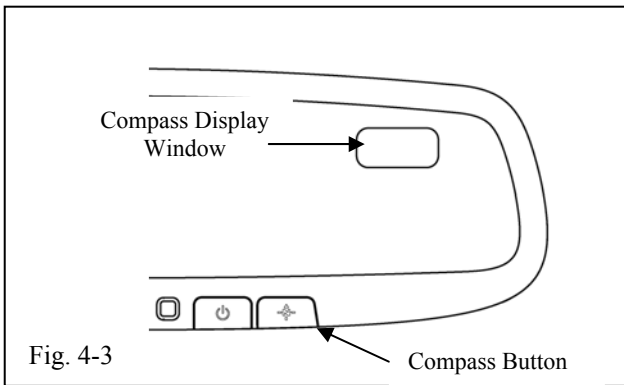

Fig. 4-3
- (1) Push the Compass button to turn the compass on/off. Compass is enabled when a direction or "CAL" appears in the mirror display window. (Fig. 4-3)